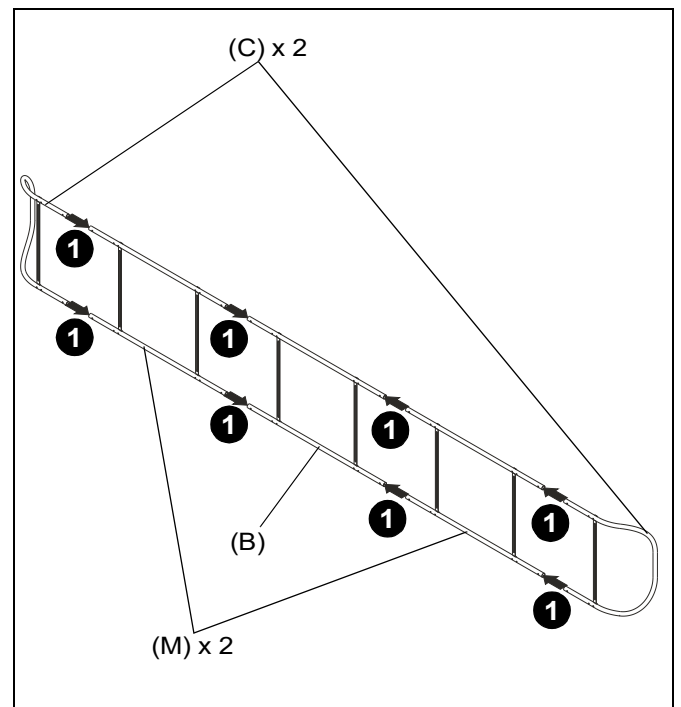

**Figure 7**
- Use four #12-24 x 3/8" Phillips tapping screws (G) to secure four center joiner tubes (F) to center frame (B). (See Figure 7)